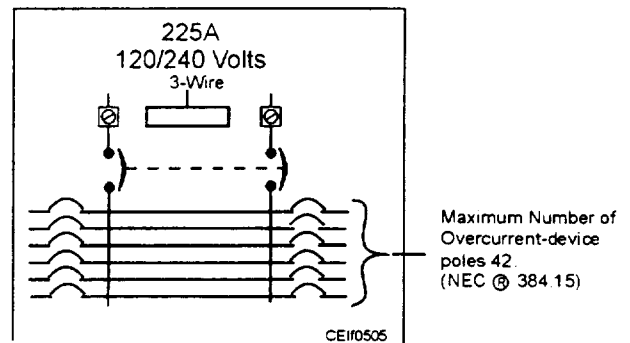

Figure 5-5.—Typical arrangement that shows NEC® rules for lighting panelboards.
2. A lighting and appliance branch-circuit panelboard is limited to not over 42 overcurrent devices (excluding the main overcurrent devices) in any one cabinet or cutout box (fig. 5-5). When such devices are numbered, a single-pole circuit breaker is counted as one overcurrent device; a two-pole circuit breaker, as two overcurrent devices; and a three-pole circuit breaker, as three overcurrent devices.